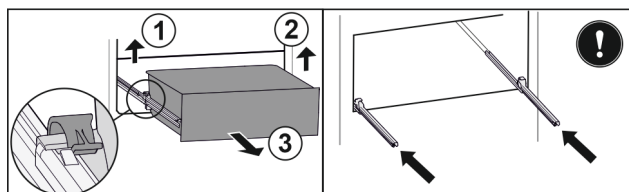

Fig. 32*
- Lift the left clamp and simultaneously pull the drawer on the left forwards Fig. 32 (1).*
- Lift the right clamp and simultaneously pull the drawer on the right forwards Fig. 32 (2).*
- Take out the drawer to the front Fig. 32 (3).*